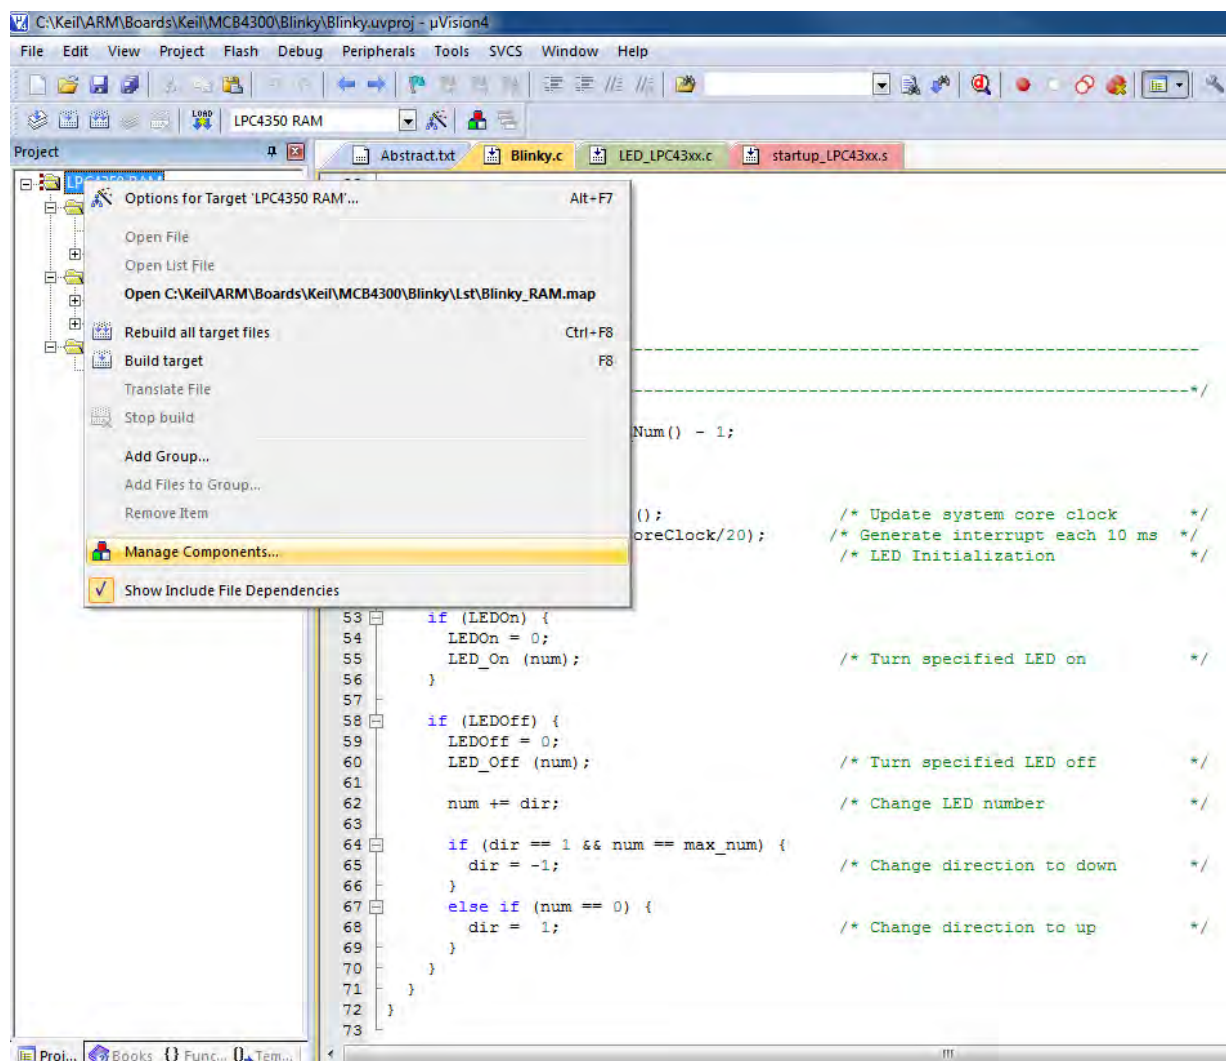

Fig 1. Blinky project in Keil uVision 4 showing Target options menu
- Right click on 'LPC4350 RAM' root directory from 'Project' explorer window and select 'Manage Components...' option from pop-up menu as shown in Fig 1.